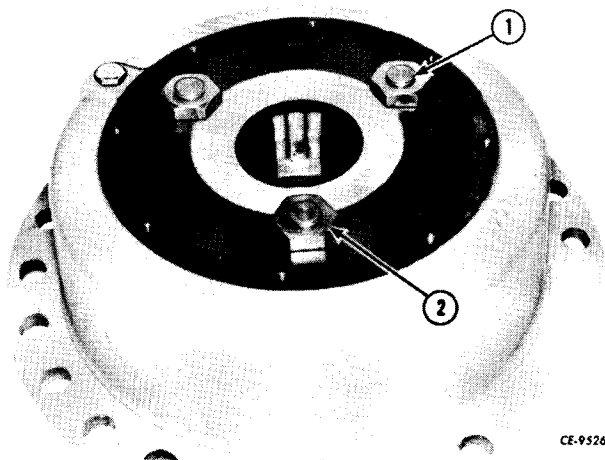

Figure 6-72
Remove the hex nuts (2, Fig. 6-72) from the planetary pinion shafts (1).